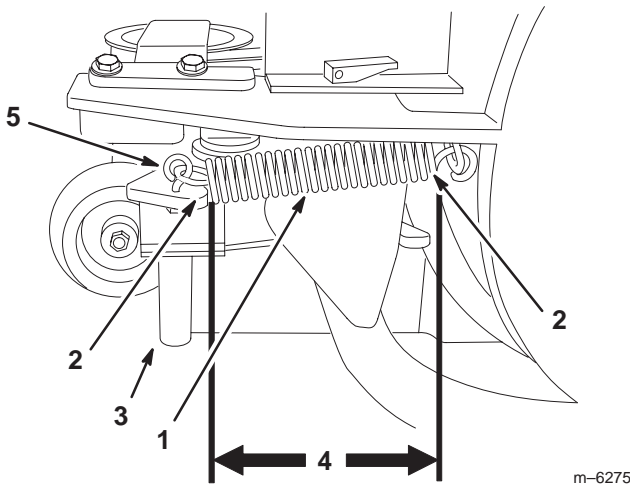

Figure 26
Note: When checking the belt tension, the spring length needs to be **between 4 inches and 4-3/4 inches** (102 and 121 mm) (Fig. 26).
3. Close the blower assembly and measure between the spring coil ends. See Figure 26 for measuring the spring length and eye hook orientation.
Note: When adjustment is needed, set the spring length to **4-3/4 inches (121 mm) +/- 1/4 inch (6 mm)** (Fig. 26).